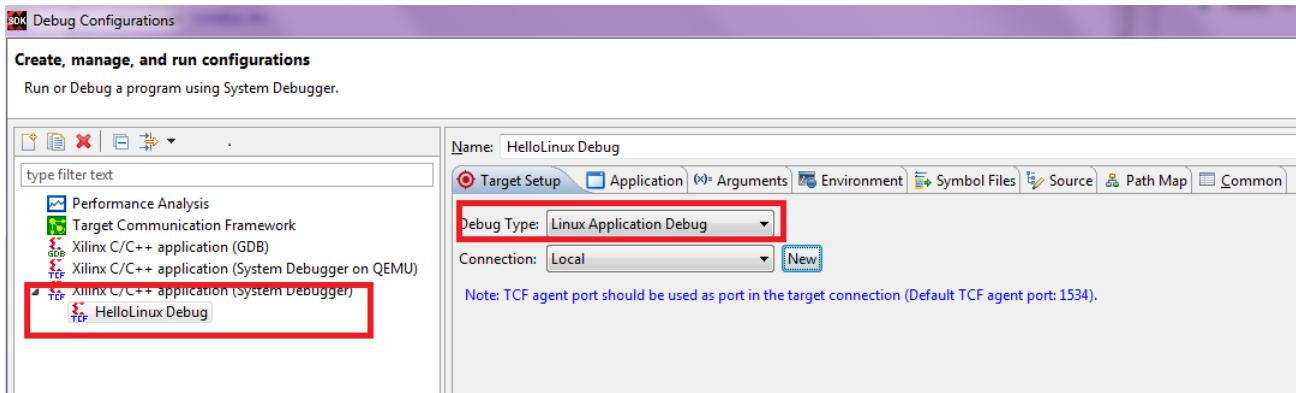

Figure 6-7: Debug Type Selection
6. Double click **System Debugger** and select **Linux Application Debug** as the **Debug Type**, as shown in Figure 6-7.